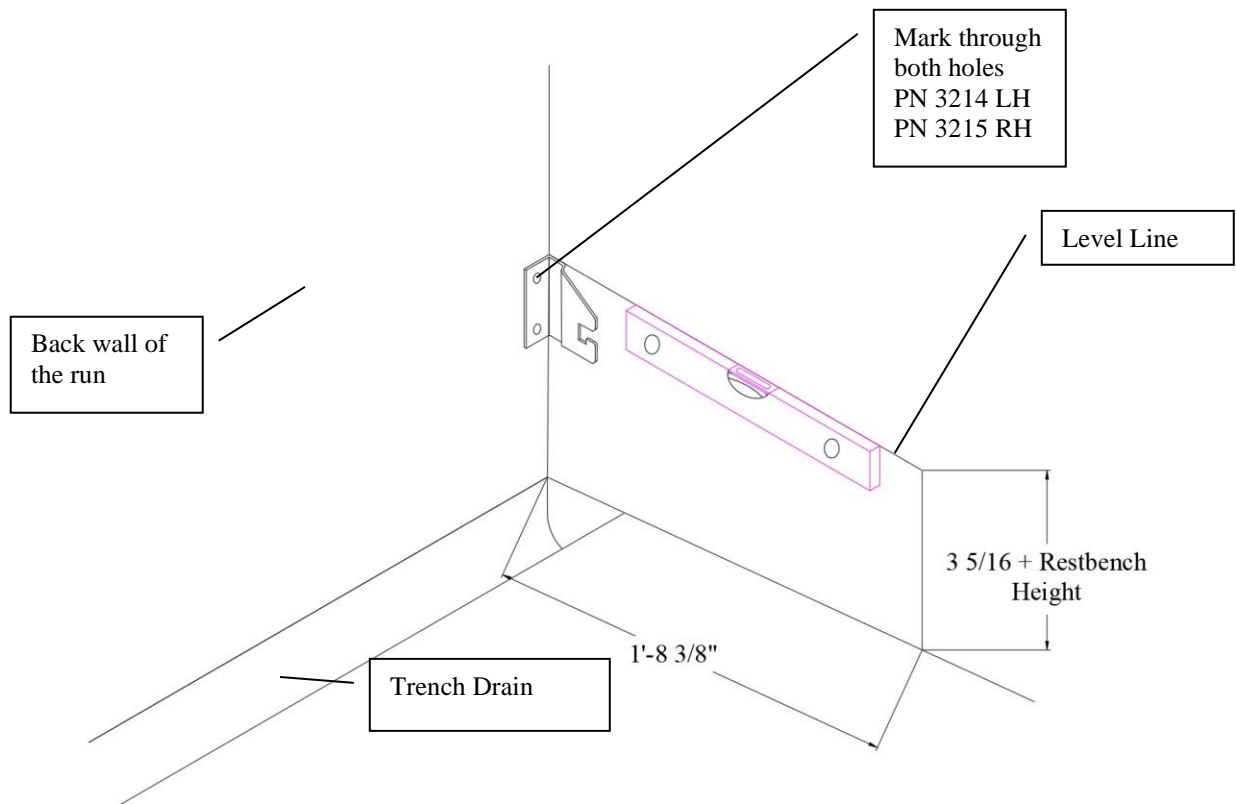
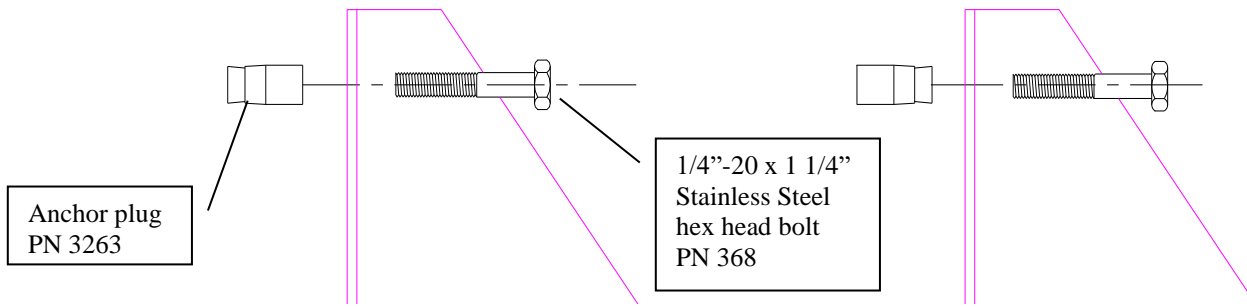

Figure 1.
Figure 2.
1. Measure out from the back wall of the run a distance of 1'-8 3/8" and make a mark on the division panel (or side wall). Then measure up vertically a height of 3 5/16" plus the height of the rest bench (example: If you have a 6" high rest bench you would measure up 9 5/16"). Make a mark on the panel (wall). Using a level, transfer the last mark you made to the back wall of the run. Do this on both sides of the run. See Figure 1.
2. Hold a support bracket against the back and sidewalls of the run so that the top of the bracket is even with the mark. Mark the wall for drilling through both holes in the bracket. See Figure 1.
3. Using a 3/8" masonry bit drill (2) 3/8" holes in the wall to a depth of 1 1/2".
5. Insert a 1/4"-20 x 1 1/4" bolt (supplied) through the mounting holes in the support brackets. Install an anchor plug on each bolt. The end of the anchor should be approximately even with the end of the anchor. Be sure that the anchor plugs are installed in the correct orientation. See Figure 2.